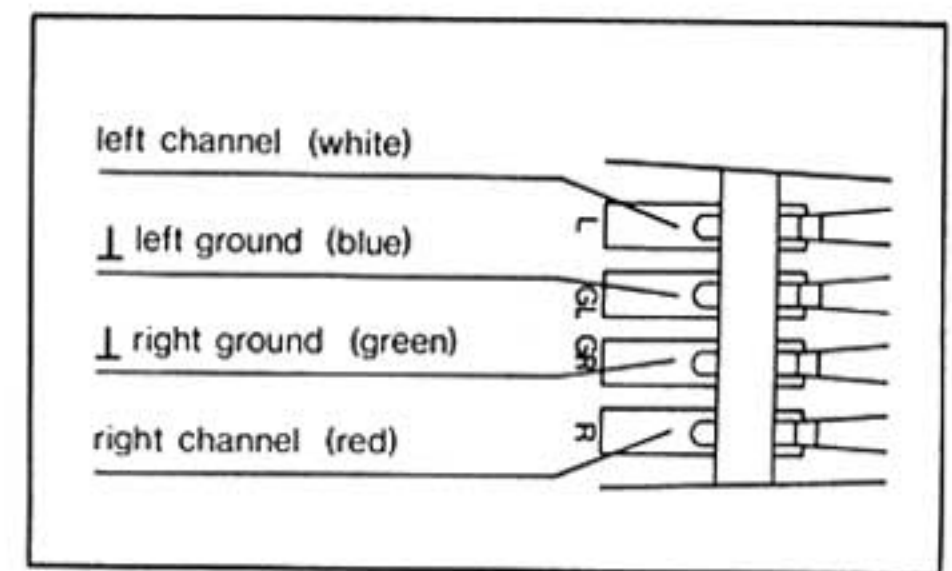

Fig. 15
3. The connections on the cartridge holder are marked and the wire leads are color-coded (Fig. 15). Connect the leads with the appropriate terminal pins on the cartridge.